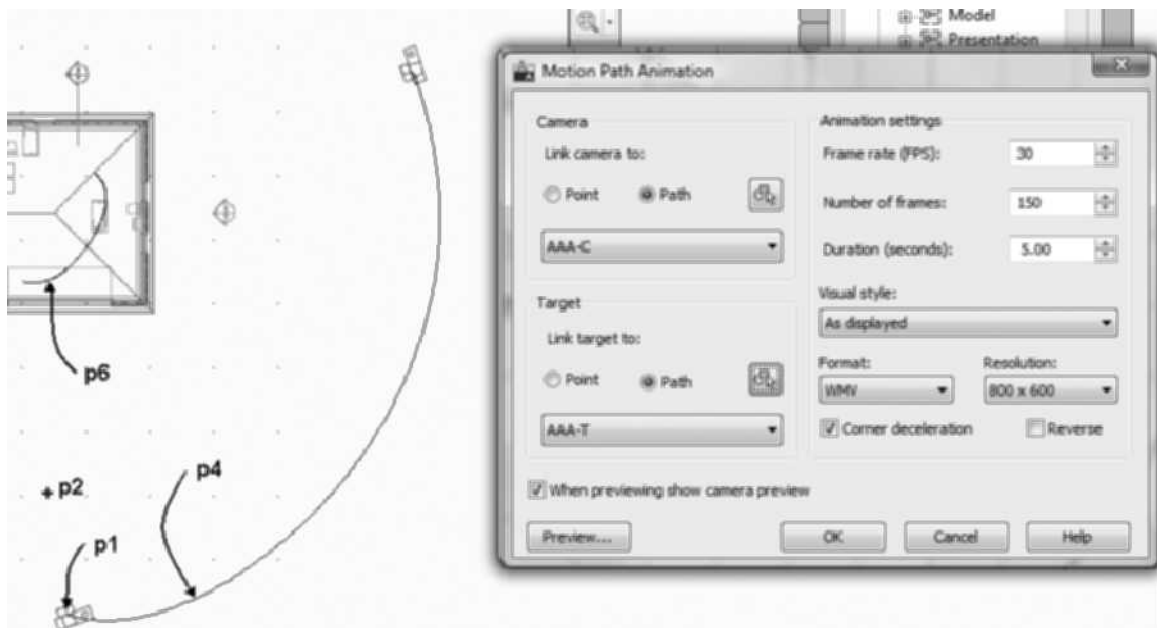

FIGURE 13.65 Motion Path Animation Settings
Specify camera location: (Select a point near p1 as shown in Figure 13.65.)
Specify target location: (Select a point near p2 as shown in Figure 13.65.)
4. Choose **Animation Motion Path** to open the **Motion Path Animation** dialog box as shown in Figure 13.65.